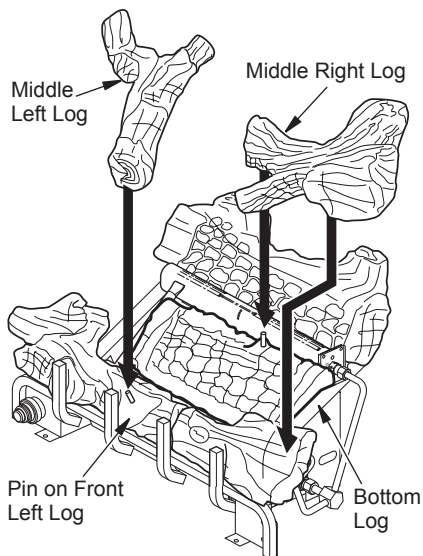

Figure 20 - Installing Log Sets
5. Place middle right log over front right and bottom logs as shown in Figure 20. Be sure hole in middle right log seats over pin in bottom log.
6. Place middle left log over front left and bottom logs as show in Figure 20. Be sure hole in middle left log seats over pin in front left log.